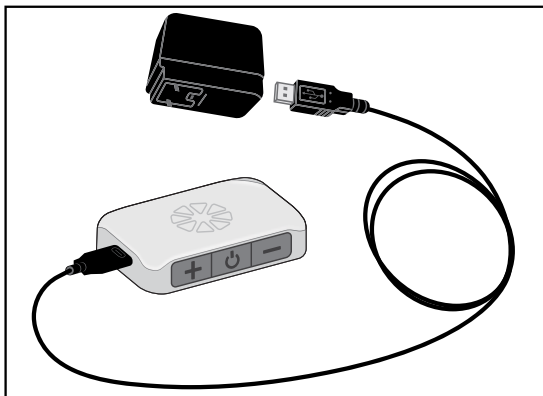

Figure 6-1: Charging set-up.
2. Connect the USB C cable to the E-EFC. See Figure 6-1.